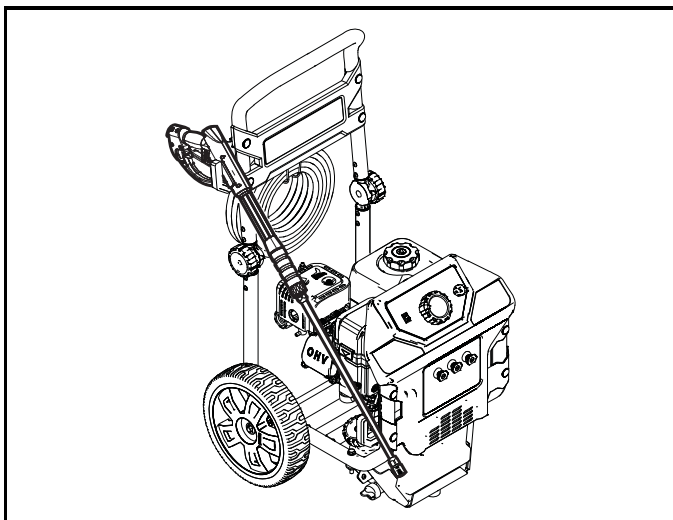

Figure 4-6. Gun/Lance
6. Place spray gun/lance extension onto spray gun holder as shown (Figure 4-6).